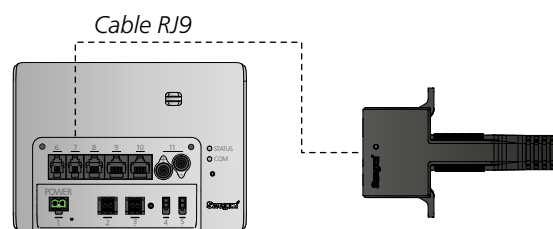

Figure 4. The WISE SMA Multi connects to port 7.
4. Connect the cable in WISE CU and WISE SMA Multi (see Figure 4).
6. Connect the cable in WISE CU and WISE SMA Multi (see Figure 4).